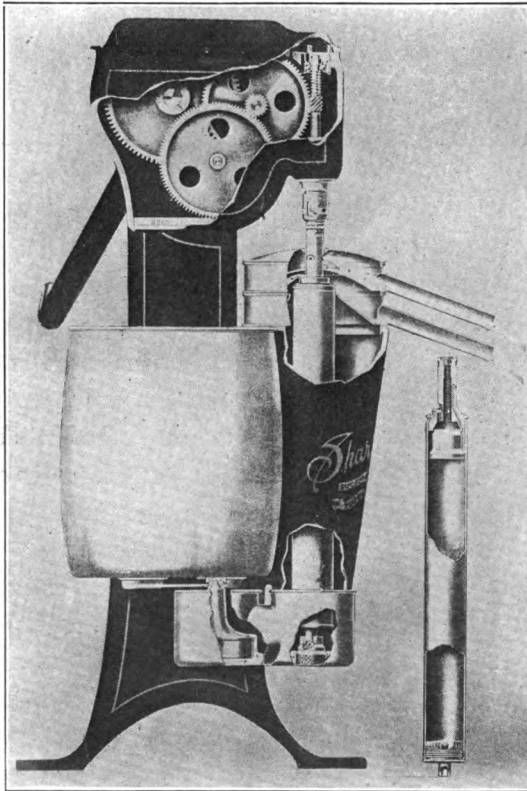
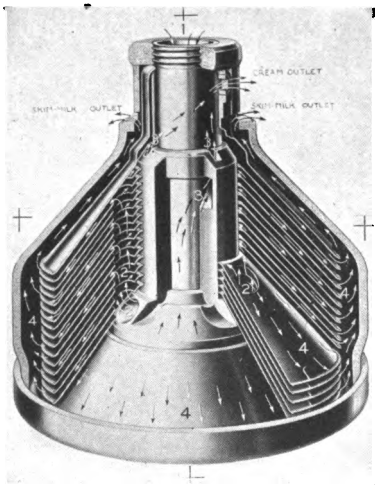
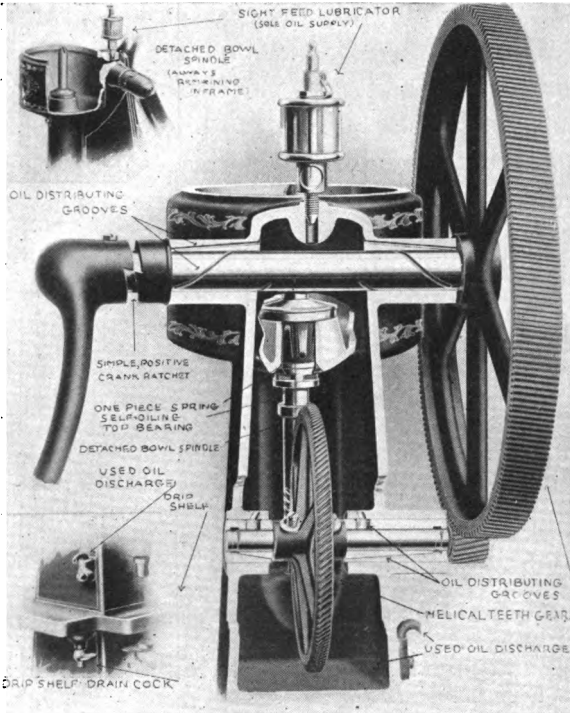

FIG. 124. Cream separator.
FIG. 125. Discs in DeLaval cream separator.
FIG. 126. Sectional view of separator.
**222. Cream Separators.** A cream separator is a device for separating cream from milk. Separation can be done best while the milk is still warm (Fig. 124).
**223. Different Types of Separators.** There are two types of separators—one which contains discs of metal (Fig. 125), and the other which depends upon a cylinder in which the milk rotates (Fig. 124) for the separation of the cream from the skim milk. Fig. 126 shows a sectional view of the DeLaval separator.